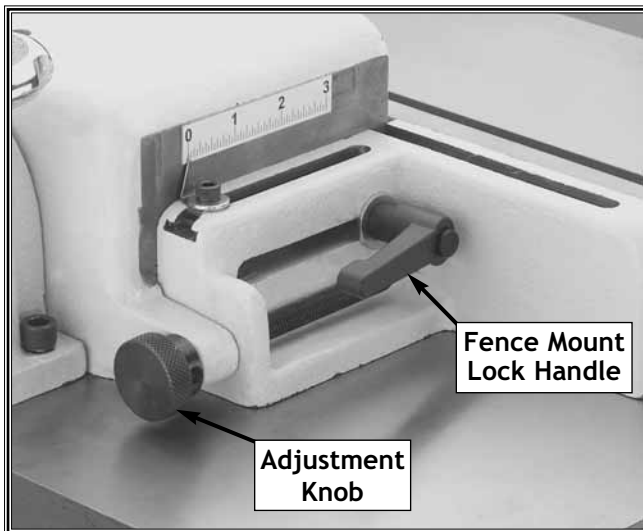

Figure 42. Fence mount lock handle.
1. Loosen the locking handles shown on the sides of the fence mount in **Figure 42**.